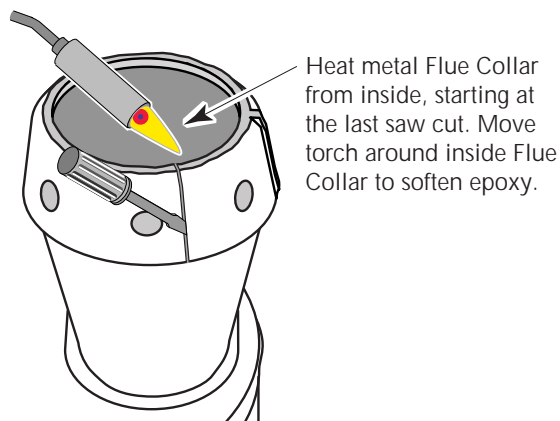

Figure 3: After third cut, heat flue collar and pry plastic collar off. Clean up metal flue collar with torch and screwdriver or putty knife.
7. Heat around the inside of the Combustion chamber Flue Collar with a propane torch to soften the epoxy (Figure 3); peel the plastic collar off the Combustion Chamber Flue Collar and scrape the Flue Collar clean with a putty knife.